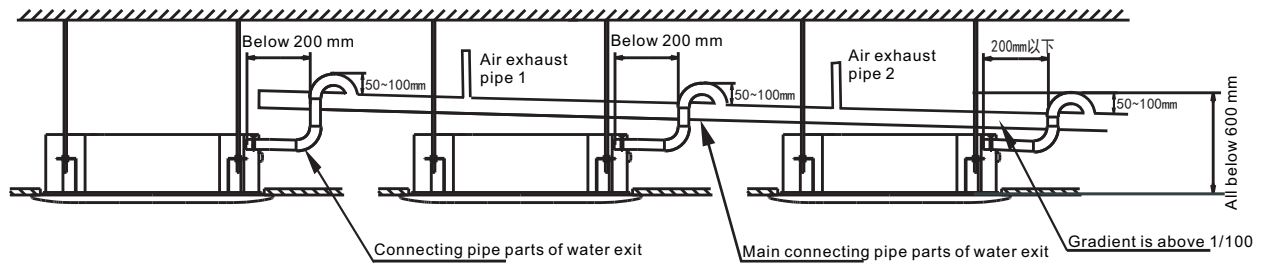

Figure 4.2 Drainpipes of Several Units Connect with Sewer through Main Drainpipe
7) If the exit of drainpipe is higher than pumping connecting pipe of main body, drainpipe should be kept vertical upwards as it is possible. The connecting pipe part of water exit has the function of bending vertically and the drainpipe should be set within 600 mm from water tray. Otherwise, when it stops, too much water that flows back will cause overflow. (See Figure 4.2)